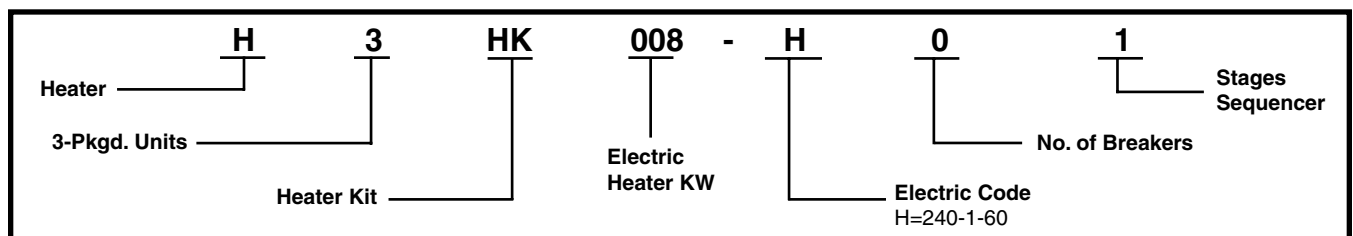

Figure 1. Heater Kit Identification Code
- Units with installed electric heat may be supplied by a single circuit or by multiple circuits. Additional accessory kits may be required if single circuit installation and/or circuit breakers are desired. See Figure 1 for kit identification and Table 1 for part numbers and accessory descriptions.